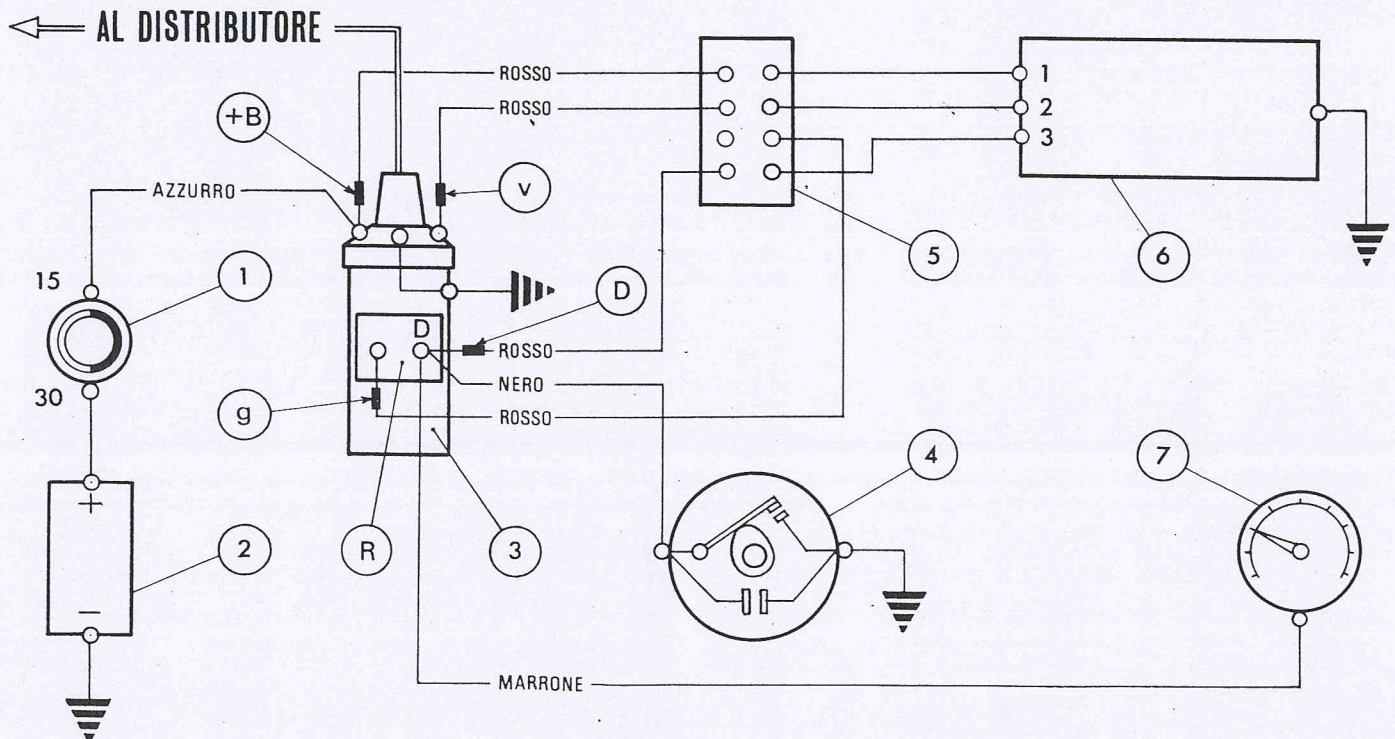
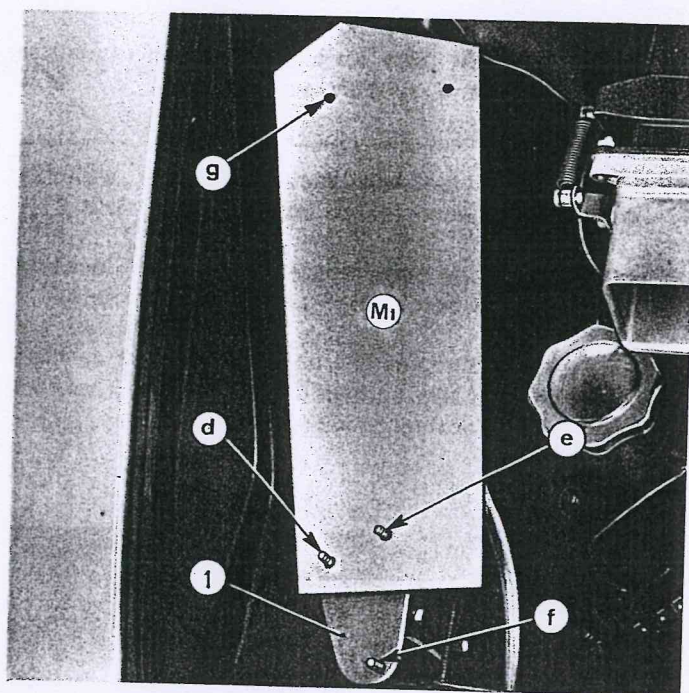
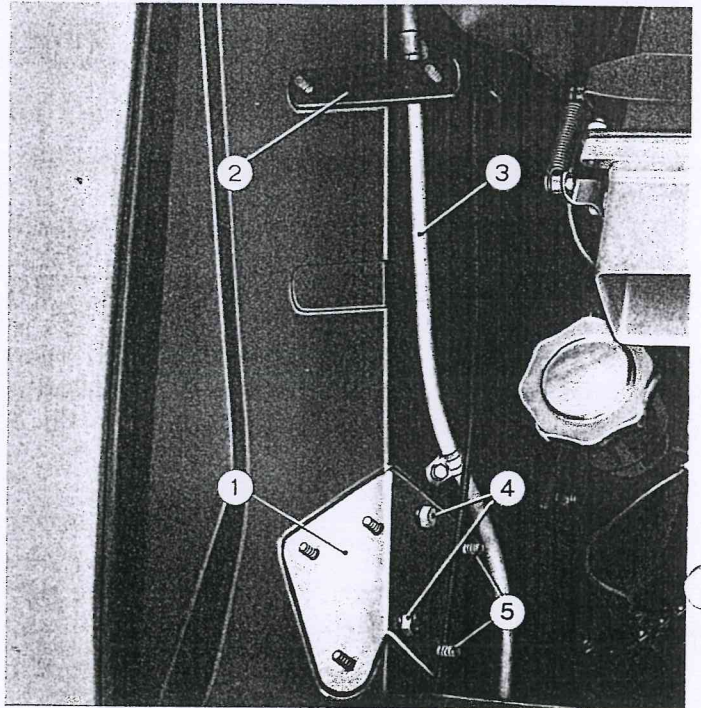

Fig. 1. - « Dinoplex C » Wiring diagram (DINO Coupé and Spider Versions).
Fig. 9. - SPIDER: application of jig M1 for scribing hole g.
Fig. 10. - SPIDER: preparation for « Dinoplex C » installation.
- 6) Replace the ignition coil and connect the leads in accordance with the wiring diagram of fig. 1.
- 7) Adapt the vertical plane of front plate 1, fig. 10, to side rail flank and see that the heads of the three screws d, e and f, fig. 9, fit into the three holes previously drilled on side rail top face (see 6 above).
- 8) If required, slot slightly the two holes for screws 4, fig. 10, in order to correctly position the plate in relation to the existing pads on side rail inner flank (previously, said pads were used to mount the horn compressor).
- 10) Apply jig M 1, fig. 9 (the same used for the Coupé) locating it by the two screws d and e as shown in fig. 9. Scribe hole g, fig. 9, remove the jig and cut the hole using a 16 mm dia. edge hole saw.
- 11) Position rear bracket 2, fig. 10, so that the screw head fits into hole g, fig. 9, and weld the plate to side rail with its edge at right angle to side rail corner (see fig. 10). Then, weld the front plate after checking that the « Dinoplex C » unit fits exactly on to the three screws e, f and g, fig. 9.
- 15) Install the horn compressor in the new location using the two screws 5, fig. 10, on front plate.
- 16) Install the « Dinoplex C » unit and the new ignition coil using the two screws d and f, fig. 9. Connect the leads according to wiring diagram fig. 1.